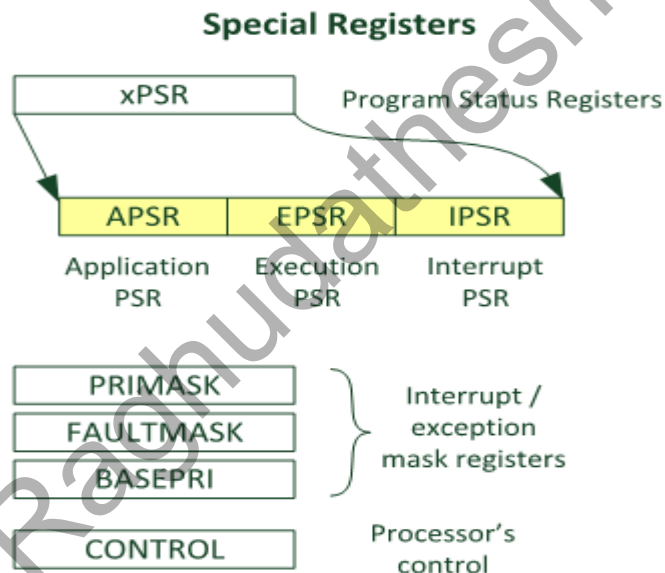

Figure 4: Special Registers
- Besides the registers in the register bank, there are several special registers as shown in figure 4.